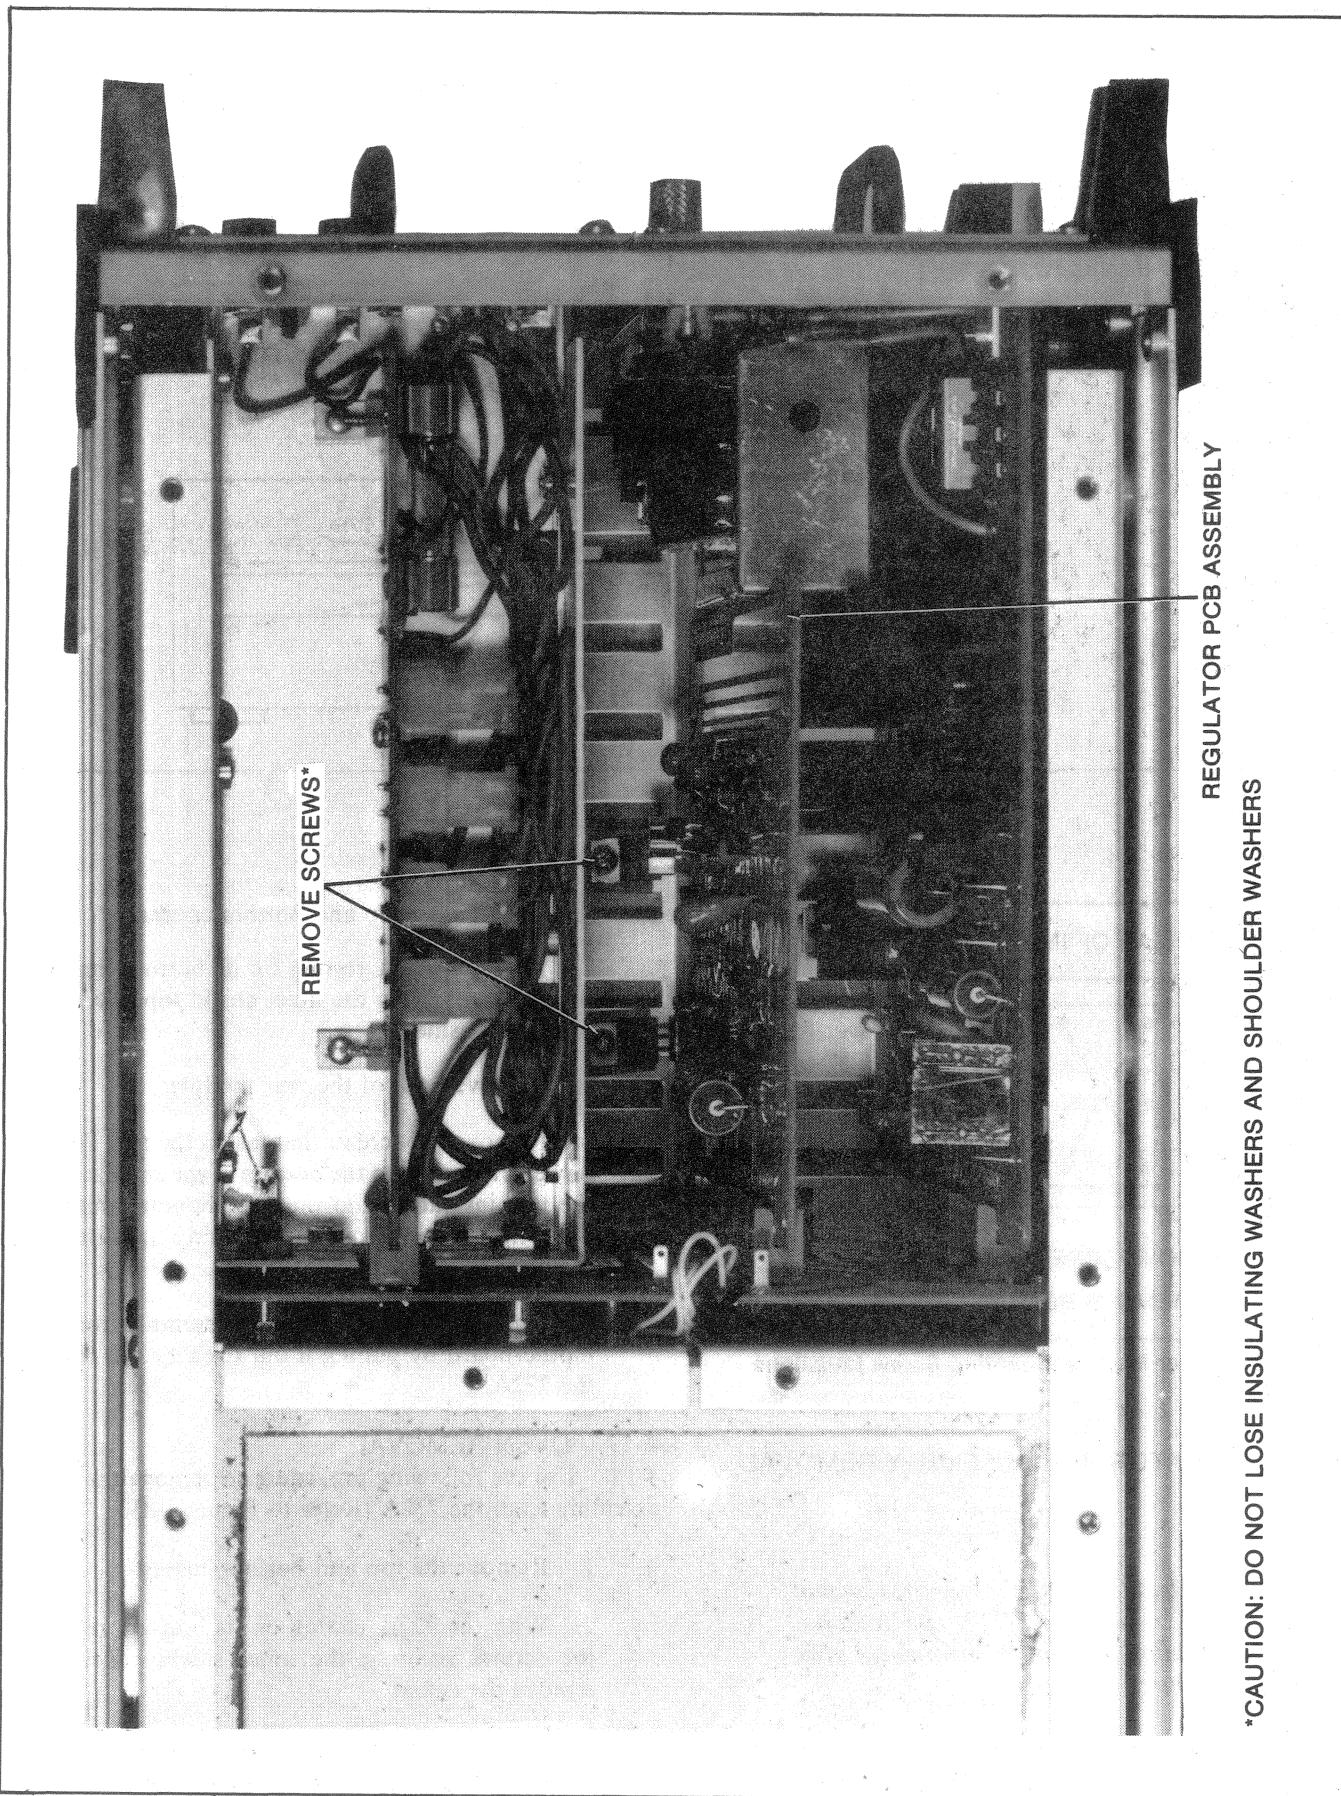

Figure 4-3. Regulator PCB Assembly Removal
- 4-16. Use the following procedure to remove the Regulator PCB Assembly from the 732A (Refer to Figure 4-3).